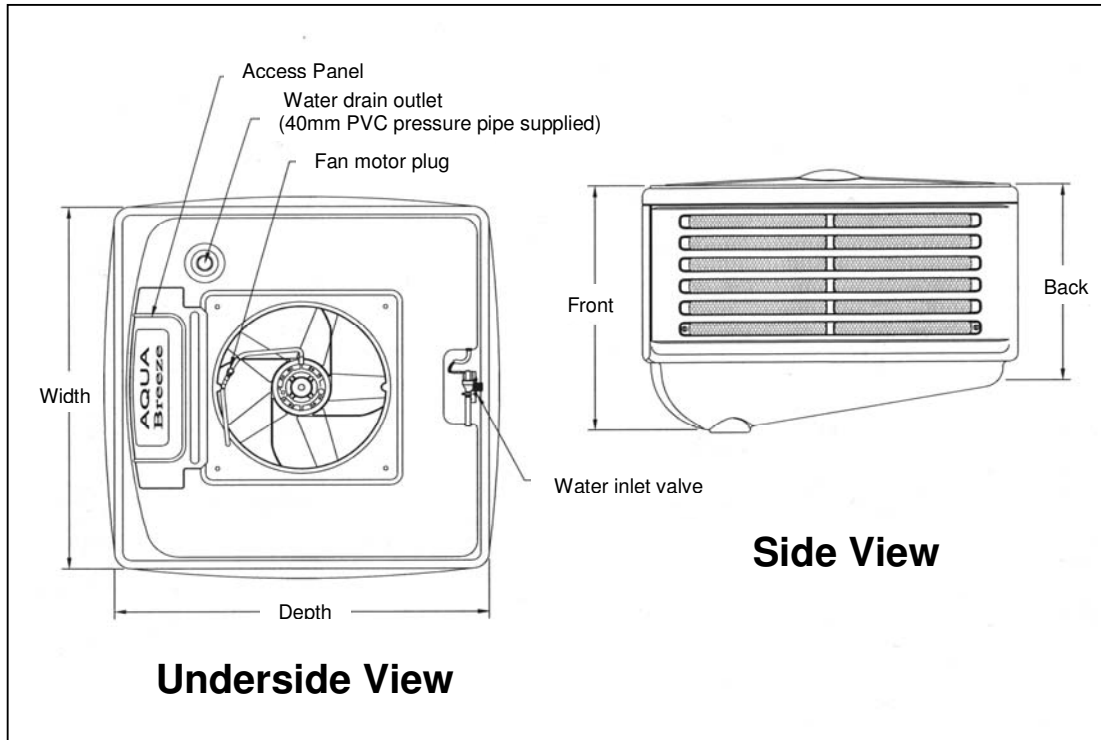

Fig 2 Aqua Breeze Evaporative Cooler
2.2.1 Specifications (see fig 2)